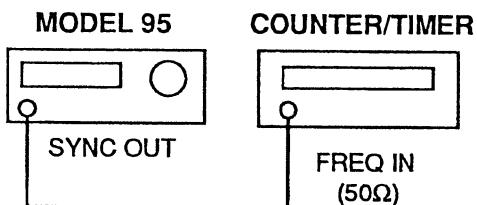

Figure 3-1. Frequency/Symmetry Measurement Setup
2. Connect the Model 95 and test equipment as shown in figure 3-1.